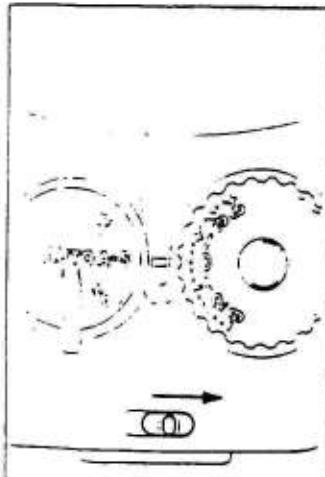

Fig.1
1. Move the eye-piece shutter knob in the arrow direction. (See Fig. 1.)
2. Set the metering system change-over dial at AUTO A-S, and set the exposure correction dial at "0". Then remove four screws ① and take out the top cover. (See Fig. 1.)